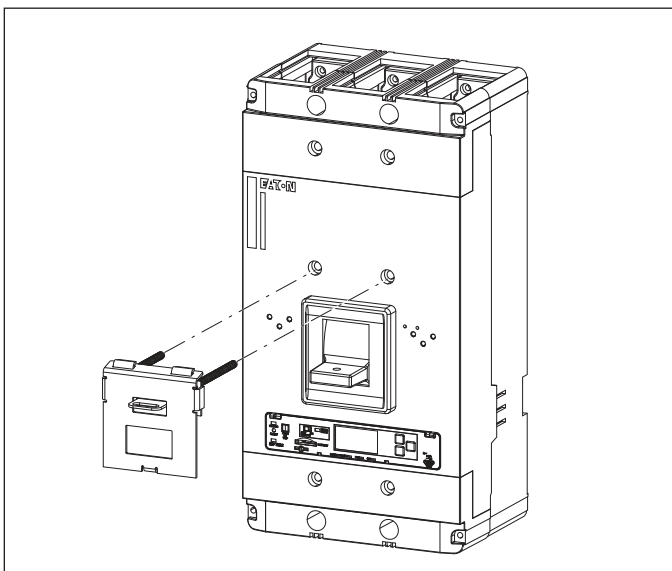

Figure 2 Padlockable Handle Lock Installation.
The padlockable handle lock hasp (Fig. 2) is used to externally lock the circuit breaker handle in either the ON or OFF position or in the OFF only position depending upon the style being used. The on-off style hasp has a slot for the circuit breaker handle. Safety is ensured since trip-free operation lets the circuit breaker trip when the handle is locked in the ON position. The hasp is mounted on the circuit breaker cover above the handle. The hasp take up to three padlock shackles, each with a maximum diameter of 5/16 inch (7.94 mm).
Note: When the padlockable handle lock hasp is mounted on the circuit breaker cover, a warning label is covered. A duplicate label is supplied with the mounting hardware. After the hasp lock has been mounted, the warning label must be placed on the breaker cover. (See Fig. 2).
- 2-1. Remove and discard the two cover mounting screws above the handle. (See Fig. 2)
- 2-2. Position hasp base with hinges toward line end of breaker and align holes. (See Fig. 2)
- 2-3. Position long screws with flat washers and lock through hasp base and into cover mounting holes and start threads, but do not tighten. (See Fig. 2)
- 2-4. Position hasp latch to hasp base. Hasp plate hinge slots must be under base plate hinges (See Fig. 2)
Note: Lockplate Retaining Feature - when the lockplate is hinged away from the mounting plate it can be retained in that position by sliding the lockplate to the right. (See Fig. 2)